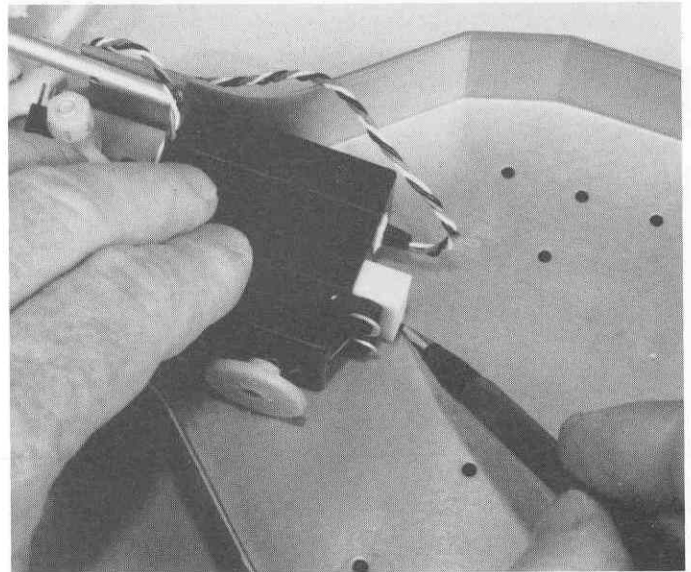

Fig. 146
□ **Fig. 146** Large servos would include Futaba S27, S29, as well as several older designs. Follow the instructions in step 141 except that the rear servo mount should be rotated 90 degrees as shown. This will move the mounting point well away from the existing holes in the chassis to make it easier to drill another hole. Temporarily install the front mounting screw, position the servo, and then mark round the rear mount as shown in Photo 146.